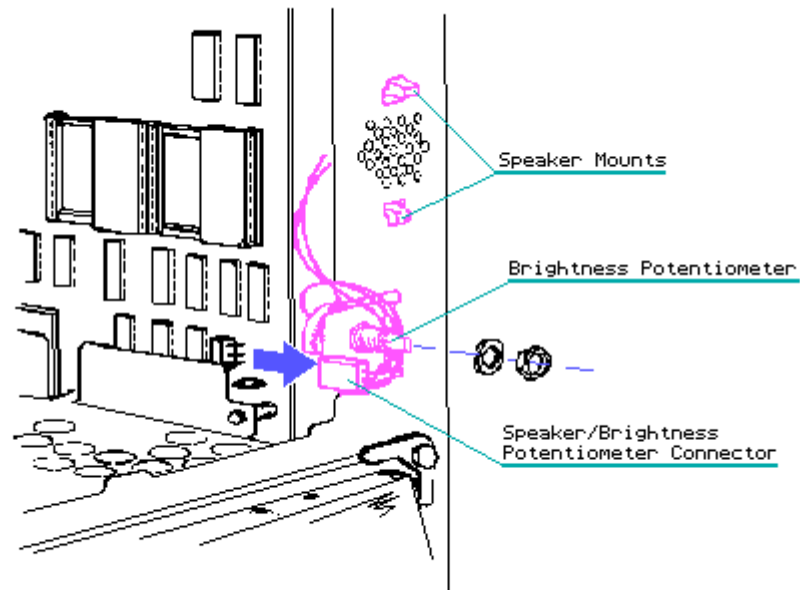

Figure 7-61. Disconnecting the Speaker/Brightness Control Connector and Removing the Speaker
4. The speaker is secured to the system chassis by a snap in mount and a toe in mount that extend through the system chassis. Remove the speaker by first disconnecting the speaker/brightness control connector from the J114 position on the system board, then pressing the snap in mount inward. At the same time, push the speaker out of the system chassis (Figure 7-61).